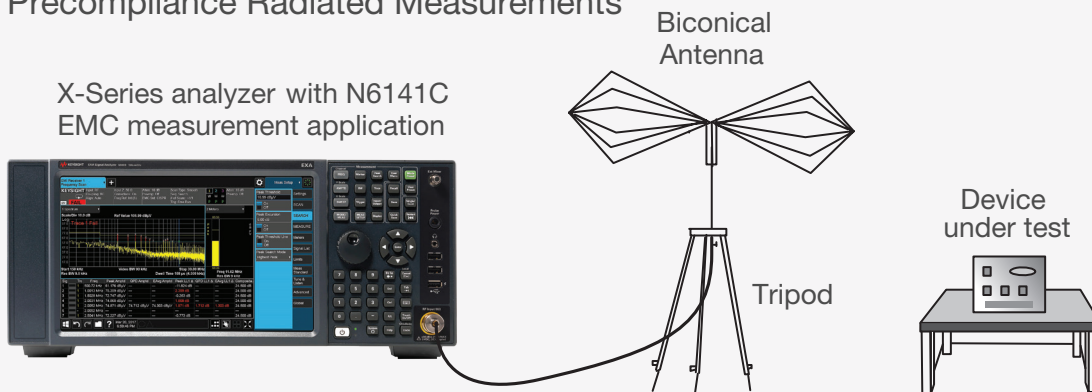

Figure 10. Radiated emissions test setup.
1. Arrange the antenna, DUT and signal analyzer as shown in Figure 10. Separate the antenna and the DUT as specified by the regulator agency requirements. If space is limited, then the antenna can be moved closer to the DUT and you can edit the limits to reflect the new position. For example, if the antenna is moved from 10 meters to 3 meters, then the amplitude must be adjusted by 10.45 dB. It is important that the antenna is not placed in the near field of the radiating device which is  $1/2\pi$  or 15.9 MHz for 3 meters. Most commercial radiated emissions start at 30 MHz.